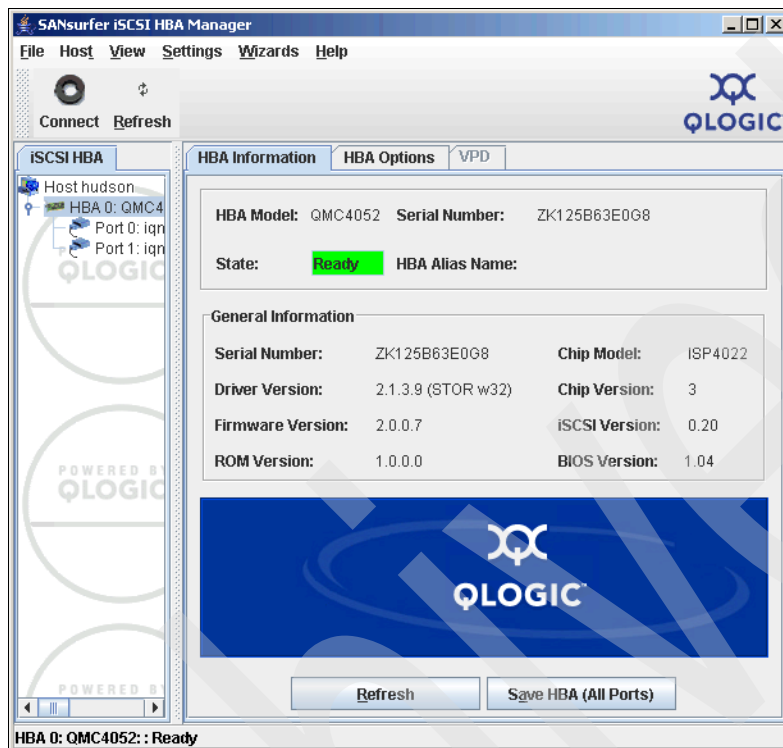

Figure 21-23 SANsurfer - HBA information
1. Connect to the SANsurfer GUI host, as described in 21.6.1, “Connecting with SANsurfer to the host where the HBA is installed” on page 495. Select the HBA from the iSCSI HBA listing and click the HBA information tab. See Figure 21-23.